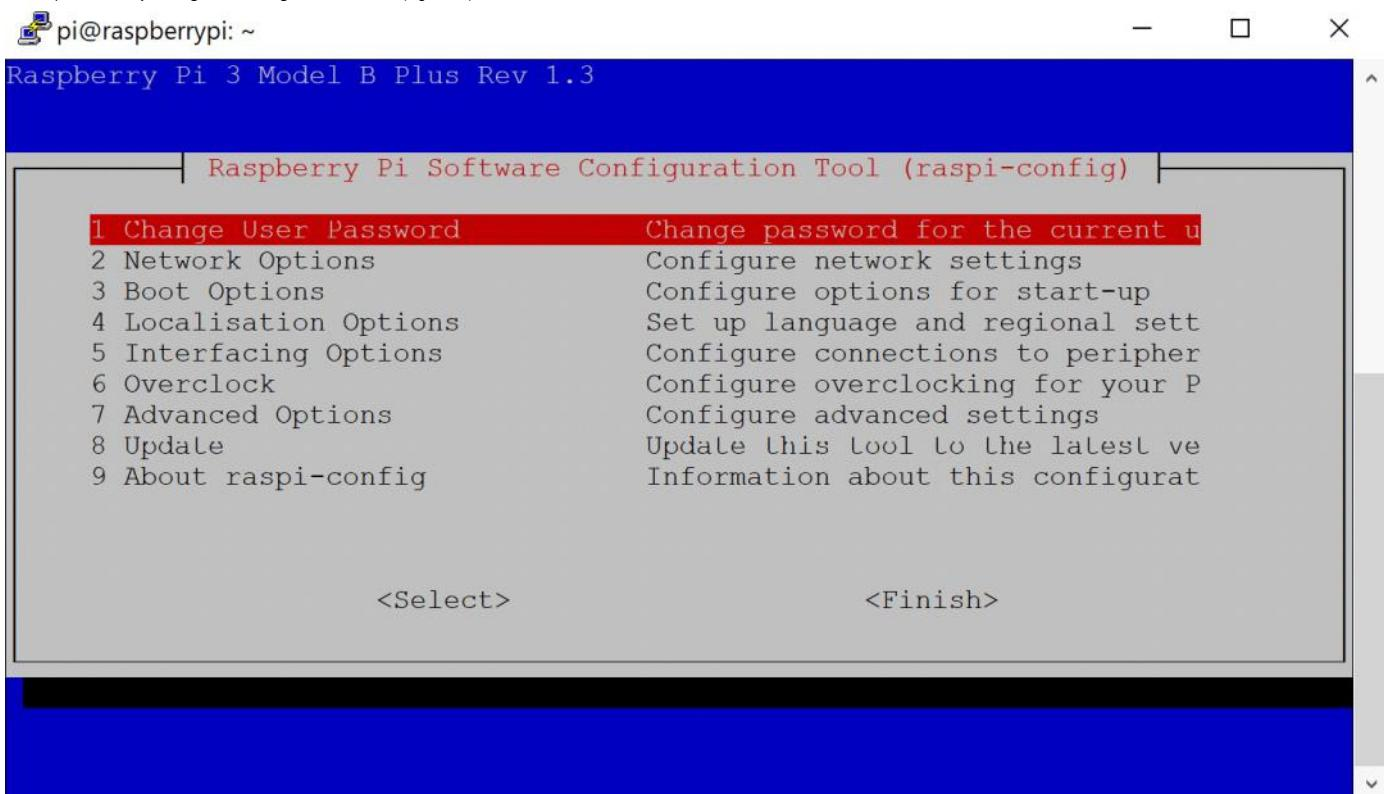

Figure 4.8 – Changing the password
1. In the top menu of **raspi-config**, select **Change User Password** (Figure 4.8):